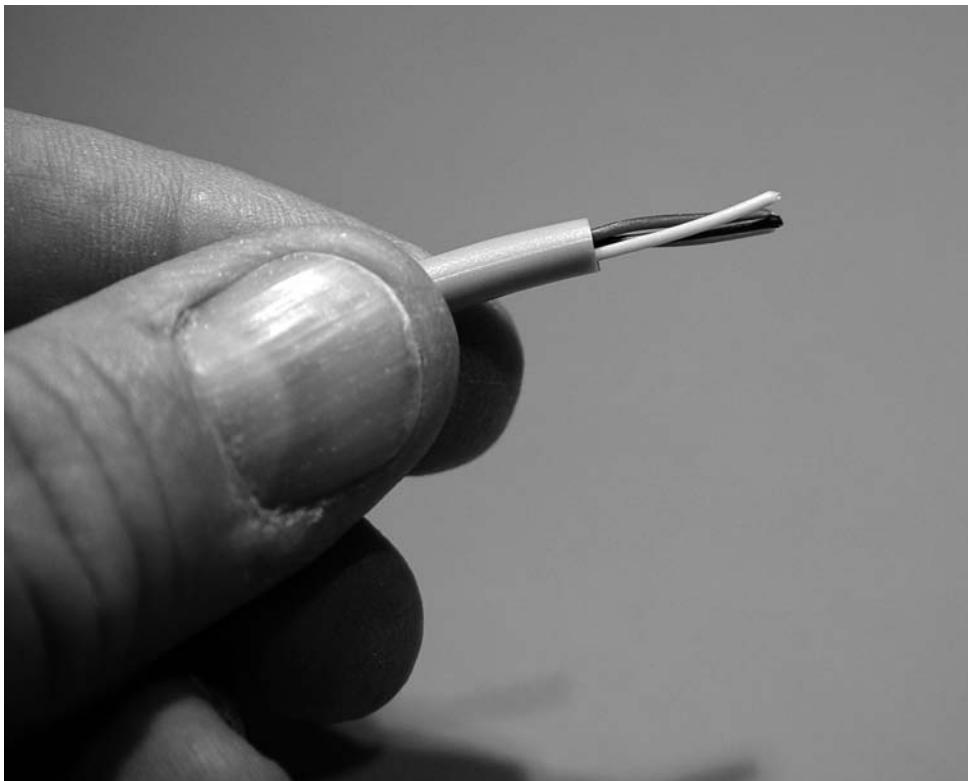

FIGURE 5-2: Strip the outer insulation.
2. Remove  $\frac{1}{4}$ " of the outer insulation as shown in Figure 5-2.